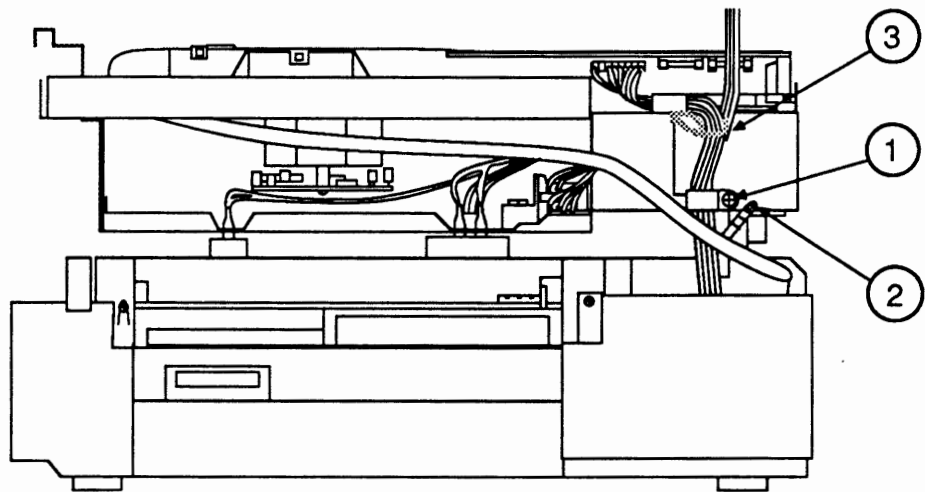

FIGURE 2-62
14. On the right, hinged side of the printer, place the cables to the LaserWriter I/O board and the DC Power Supply board inside the plastic cable clamp, and replace the black, flanged screw that secures the cable clamp to the upper main body (Figure 2-62, #1).
15. Replace the silver-colored flanged screw that secures the silver braided grounding wire to the upper main body (Figure 2-62, #2).
16. Tie the LaserWriter I/O Board cable and the DC Power Supply/Motor Drive cable to the upper main body with a cable tie (Figure 2-62, #3).